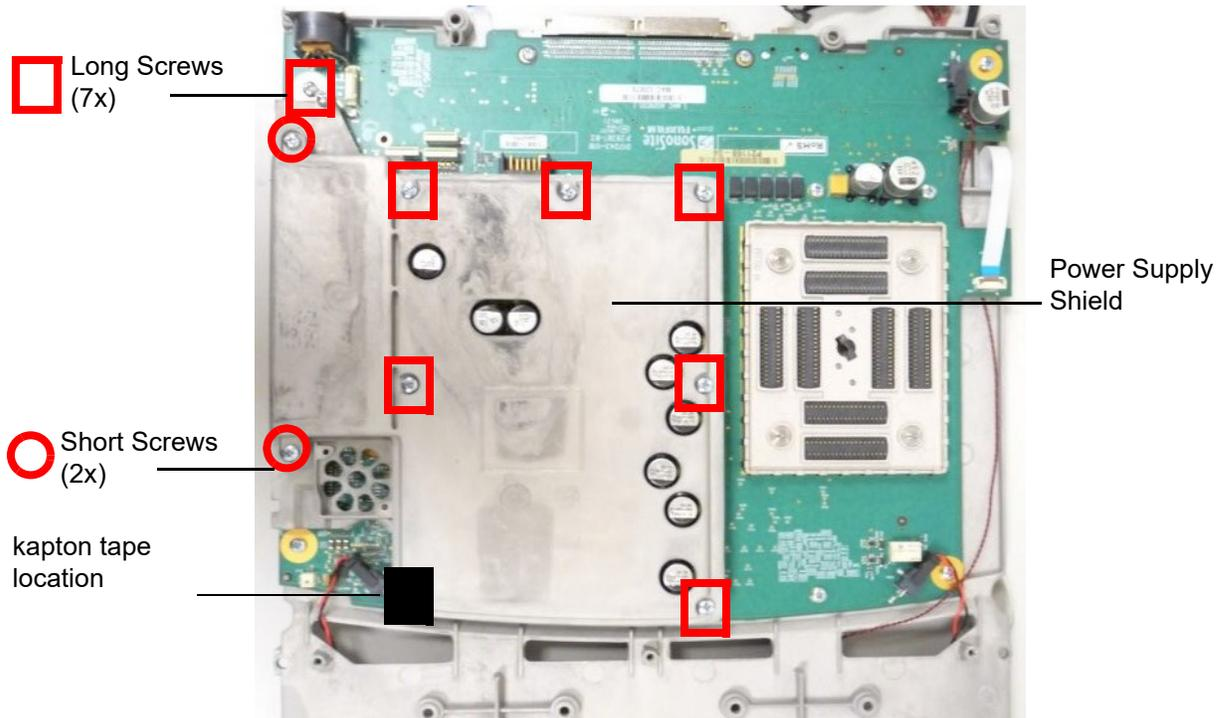

Figure 6.16 Power Supply Shield
- 1 Remove Seven long screws and two short screws securing the digital shield lid. Please note the location of the 2 short screws as seen in Figure 6.16 . Remove lid and set aside.